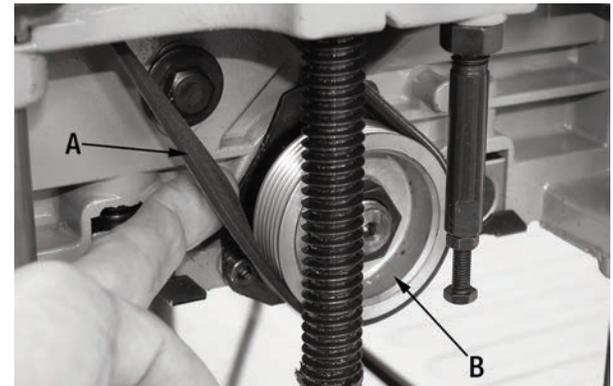

FIGURE 21
- 10) Pull on the belt (A) Fig.21 while turning the motor pulley counterclockwise until the belt comes off the cutterhead pulley (B).
- 13) Slide the belt onto the edge of the cutterhead pulley (B).